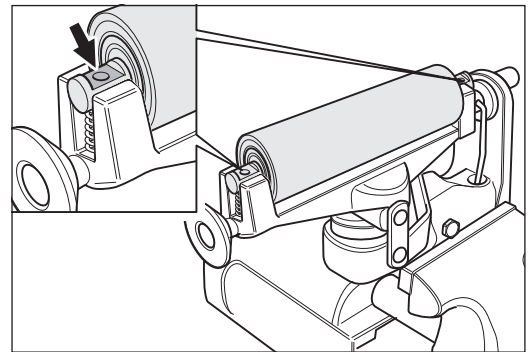

Fig. 52 Insert the new tensioning roller, ensuring that the surfaces on the shaft ends are pointing upwards.
- 6 Insert the compression spring and the tensioning roller. Ensure that the surfaces on the shaft ends of the tensioning roller are pointing upwards (Fig. 52)!